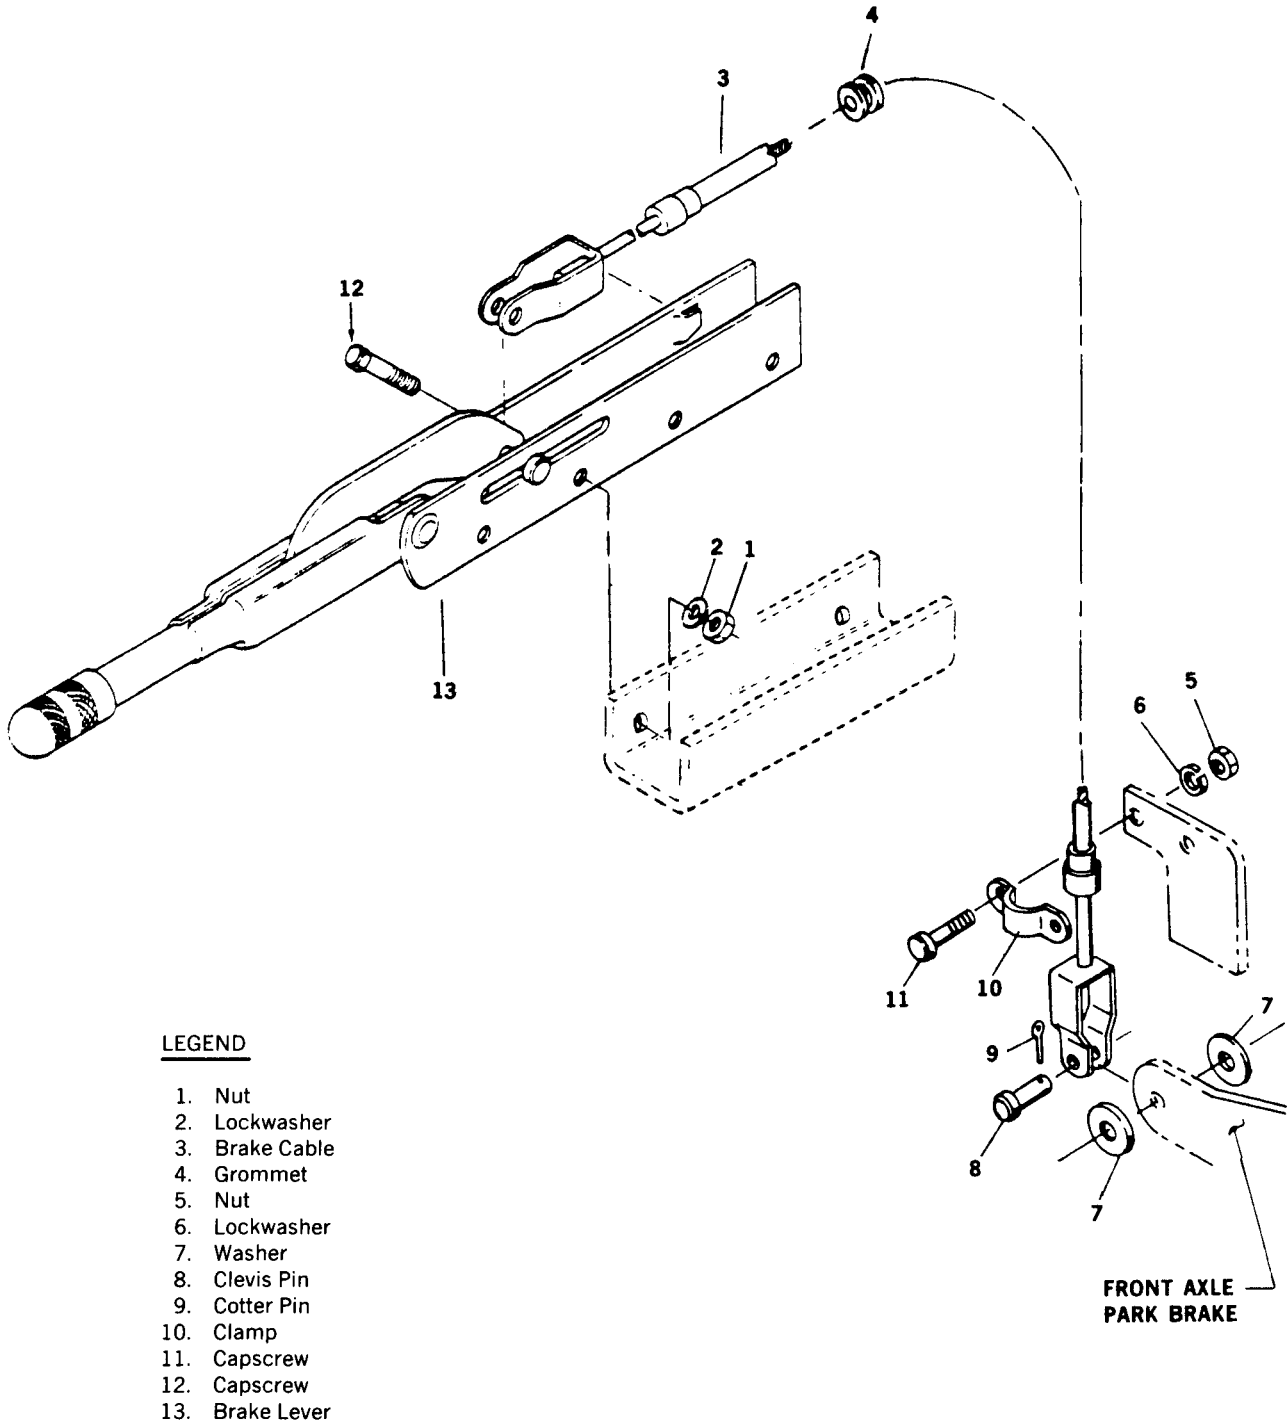

Figure 5-9. Parking Brake Installation
- b. Remove cotter pin (9, figure 5-9), washers (7), and clevis pin (8).
- c. Remove nuts (5), lockwashers (6), capscrews (11), and clamp (10).
- d. Remove capscrews (12), lockwashers (2), nuts (1), and brake lever (13).
- e. Remove brake cable (3) and grommet (4).
- a. Install brake cable (3, figure 5-9) with grommet (4).
- b. Install brake lever (13) with nuts (1), lockwashers (2), and capscrews (12).
- c. Install clamp (10) with capscrews (11), lockwashers (6), and nuts (5).
- d. Install clevis pin (8) with washers (7), and cotter pin (9)